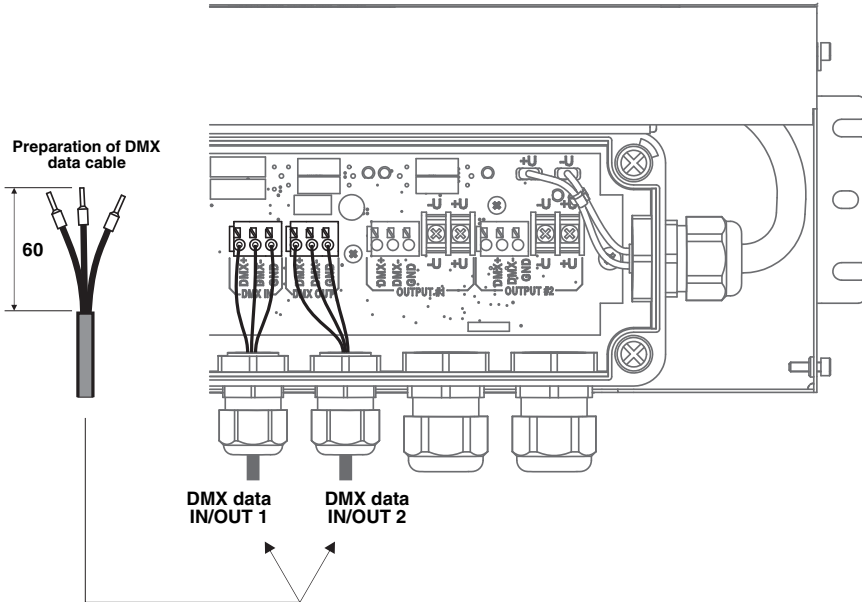

Figure 11: Control data input connections in PSU
2. See Figure 11. Prepare the data input cable for connection to the PSU by stripping the last 60 mm (2.4 ins.) of the outer cable jacket. Strip the last 10 mm (0.4 ins.) of the data ground/common, the data +ve (hot) and data -ve (cold) wires. The use of ferrules (I-type end caps) is recommended.
2. See Figure 11. Prepare the DMX data throughput cable for connection to the first PSU by stripping the last 60 mm (2.4 ins.) of the outer cable jacket. Strip the last 10 mm (0.4 ins.) of the data ground/common, the data +ve (hot) and data -ve (cold) wires. The use of ferrules (I-type end caps) is recommended.